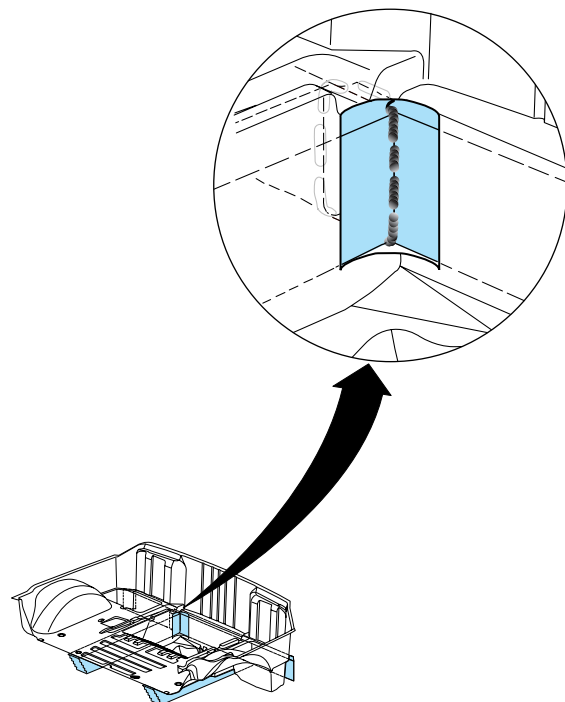

Fig. 3.75 — Prime Bare Metal Areas Before Installing Window Cutouts
- 5 Clean and prepare all welded surfaces, use 3M's Scotch-Brite Clean-N-Strip Discs (disc P/N 07460, mandrel P/N 07491), or equivalent (Fig. 3.75).